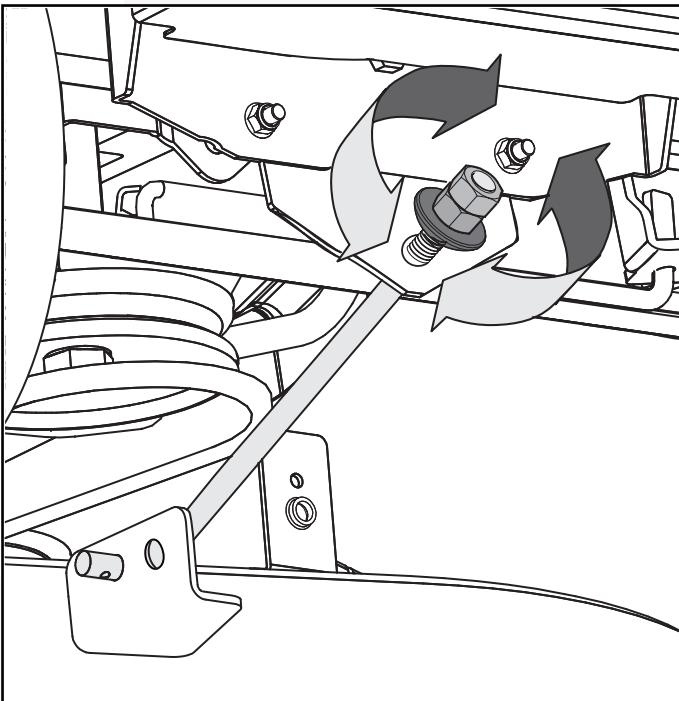

Fig. 27
3. If front-to-back adjustment is needed, after loosening the outer jam nut, turn the inner adjustment nut clockwise to raise or counterclockwise to lower the front of the cutting deck. (Fig. 27)
5. Without moving the inner adjustment nut, re-tighten the outer jam nut to secure the inner adjustment nut in place. (Fig. 27)